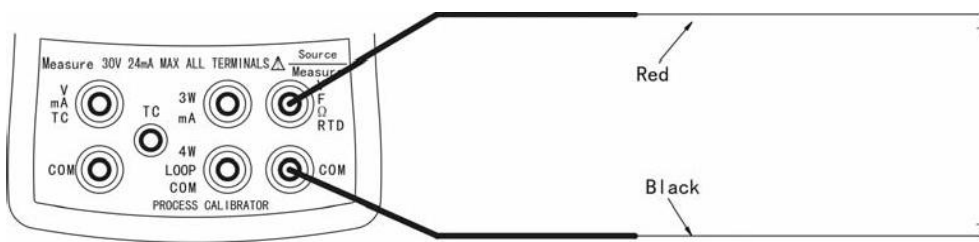

Figure6-5 Connections for Simulating a Thermocouple
- (1) Press  until the lower display shows "SOURCE".
- (2) Press  to select TC type. Continue pressing it to select the desired TC type.
- (3) Connect the test leads as shown in Figure6-5.
- (4) Enter the desired output value by pressing the numeric